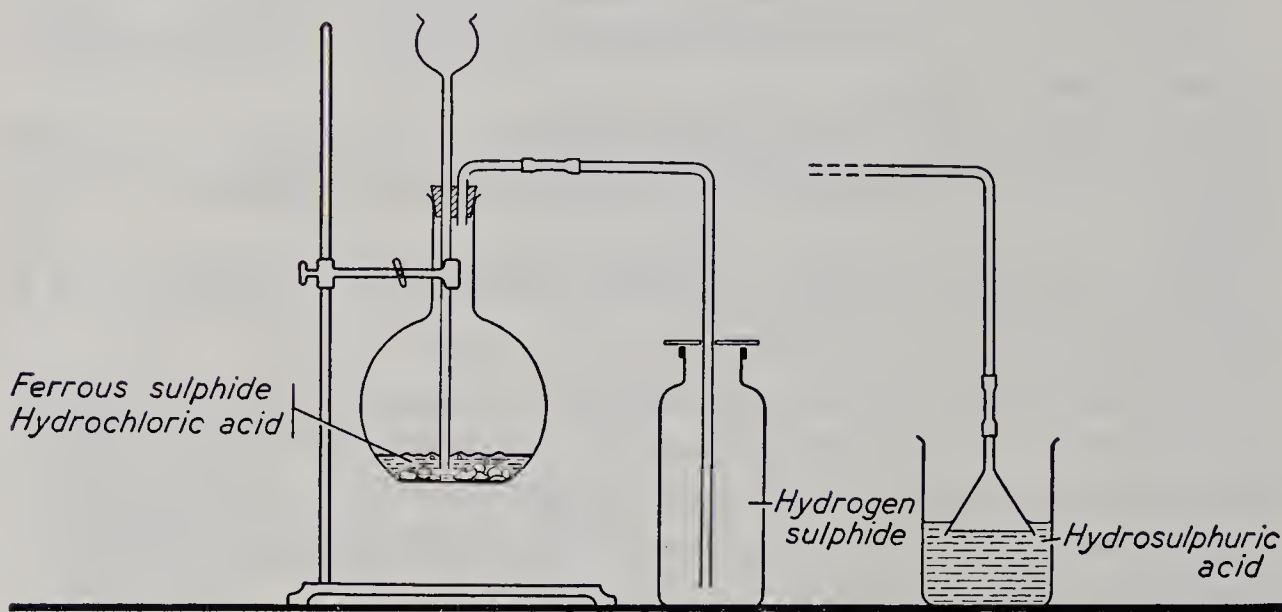

Fig. 60. The laboratory preparation and collection of hydrogen sulphide.
1. Arrange the apparatus as shown in Fig. 60. Put several pieces of ferrous sulphide into the flask and add dilute hydrochloric acid through the thistle-tube until the ferrous sulphide is well covered.